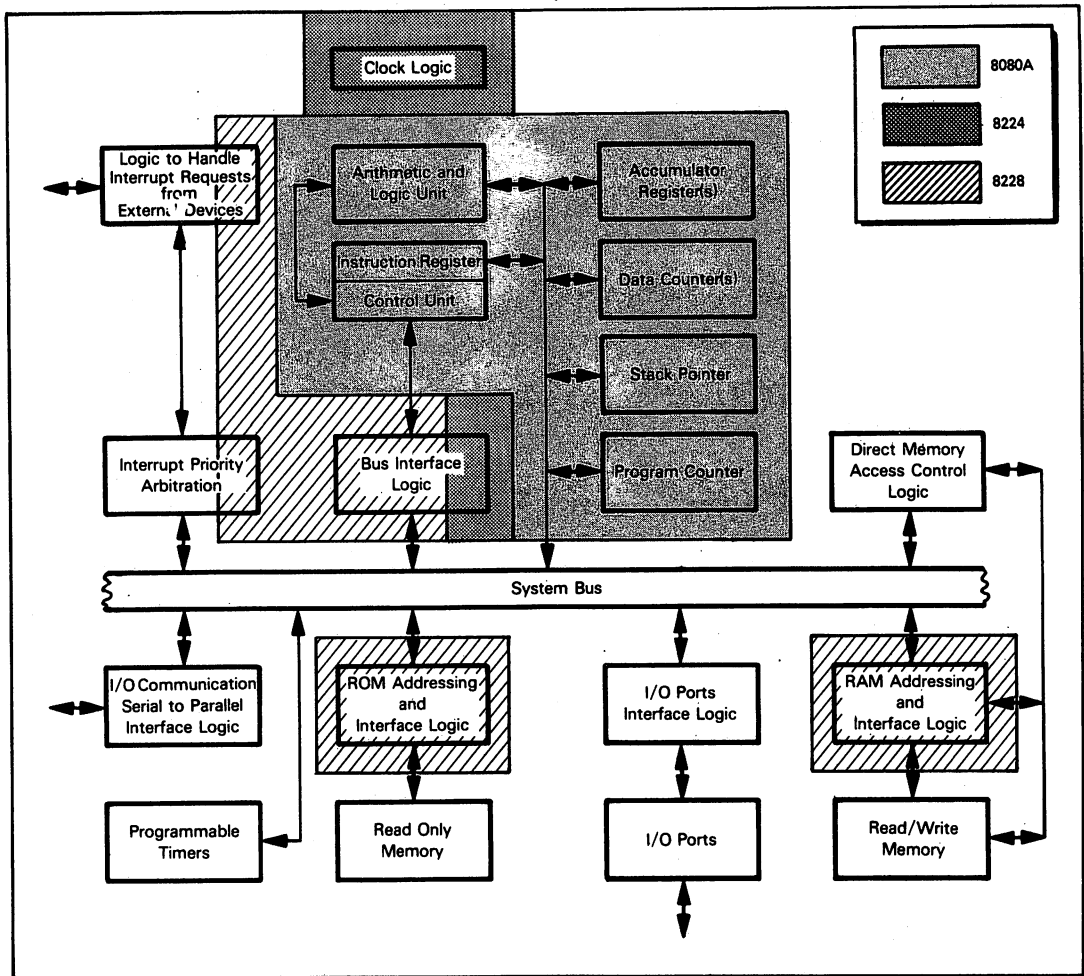

Figure 4-1. The 8080A CPU, 8224 Clock and 8228 System Controller. Forming a Three-Device Microprocessor
**Functions implemented on the 8080A CPU are illustrated in Figure 4-1; they represent "typical" CPU logic.** The 8080A has an Arithmetic and Logic Unit, Control Unit, Accumulator and registers.